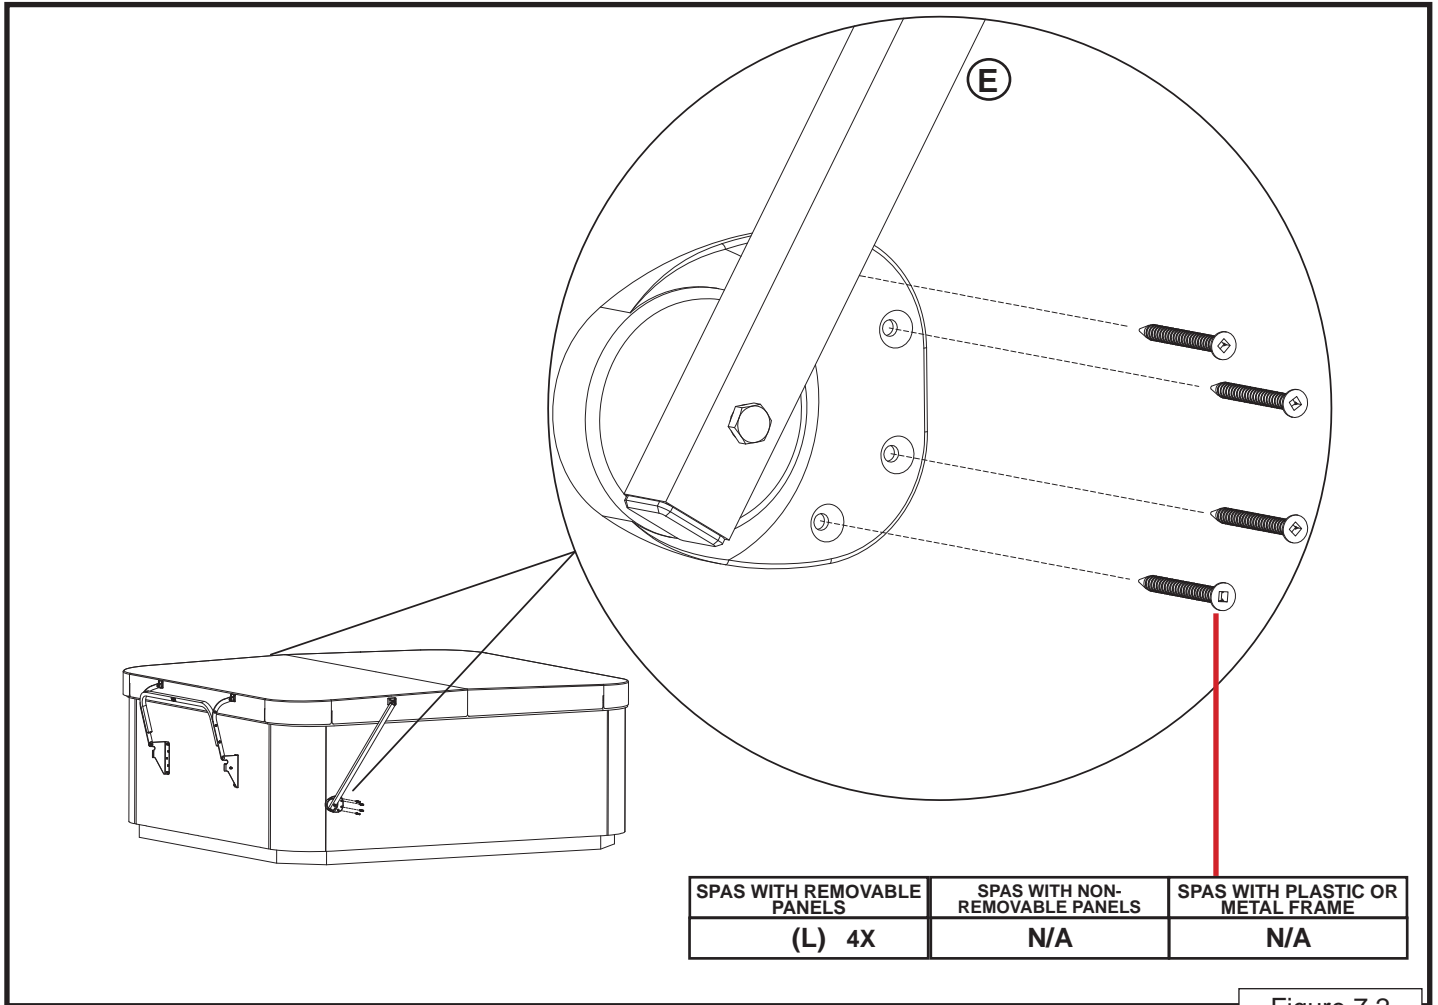

Figure 7.2
3. Position the Plastic Bottom (Pivot Bracket) with the holes facing away from the back of the cover (Figure 7.2).
Use the appropriate size screws to secure the Side Arm Assembly. Please use (Figure 7.2) and information on **Page 8** of this document to determine the correct screw size.